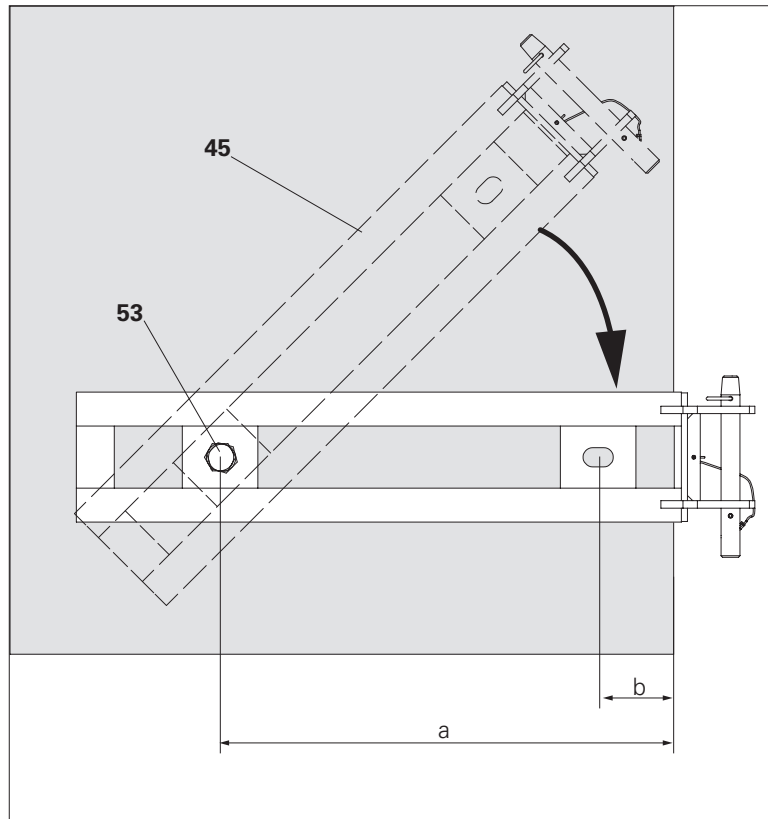

Fig. D1.06
1. Place the slab shoe (45) on the slab at an angle.
2. Fix to the anchoring (47) using bolts M24 x 70 (53).
4. Tighten bolt M24x70 (53).
5. Secure the front slot (47.6) to the floor slab using tie bolts (151). Alternatively, secure with suitable heavy-duty dowels or on embedded bolts and long nuts.
- (Fig. D1.06 + D1.06a)